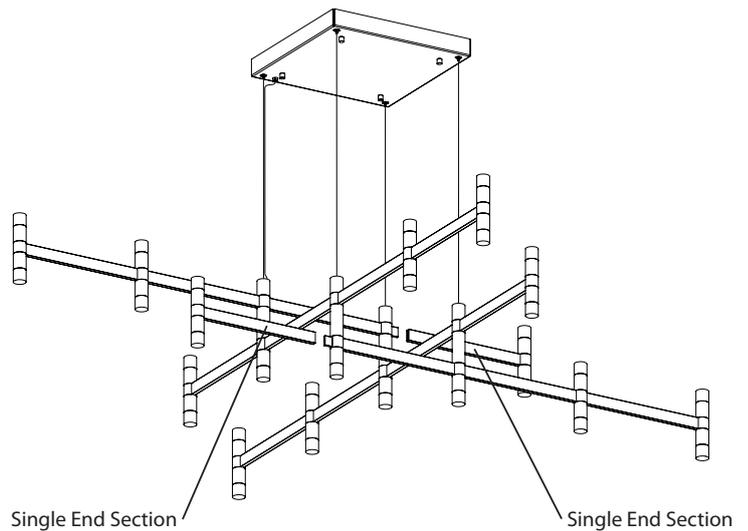

Figure 5
11. Install two Single End Sections to suspended Section 1 and 2 in positions shown (Figure 5) by connecting the plug (J), sliding bar over wing (K), securing in place with countersunk screws (L).